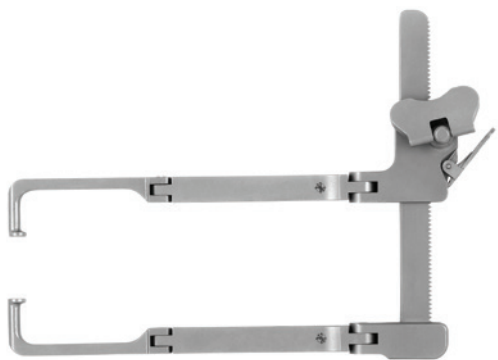

Figure 3a
- 5.5/6.0 mm (5584327) (Figure 3a)